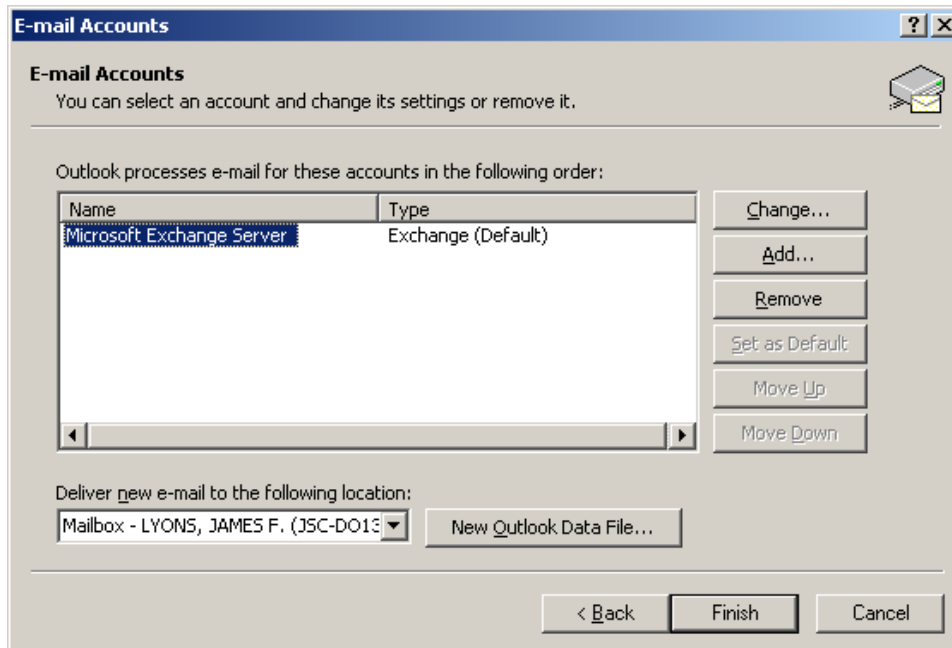

Figure 5-9. E-mail Accounts window number two
2. The default option of **View or change existing e-mail accounts** is what you need. Click on the **Next** button and the window shown in Figure 5-9 appears.